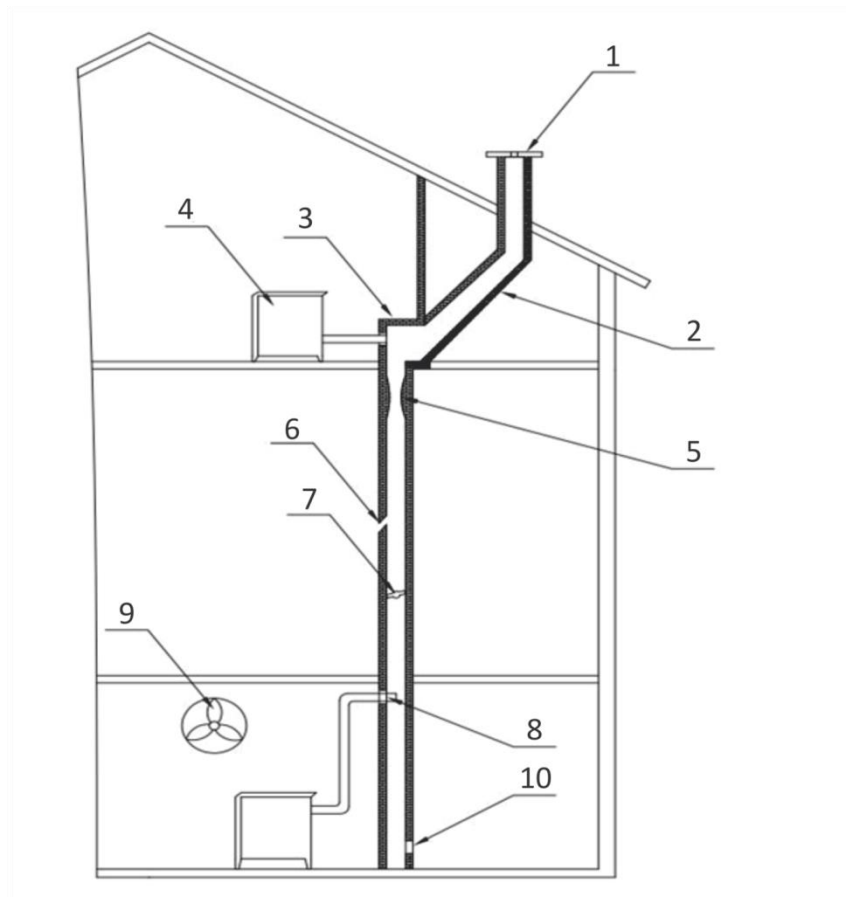

Figure 3.
**Disadvantages of the chimney (Figure 3):**